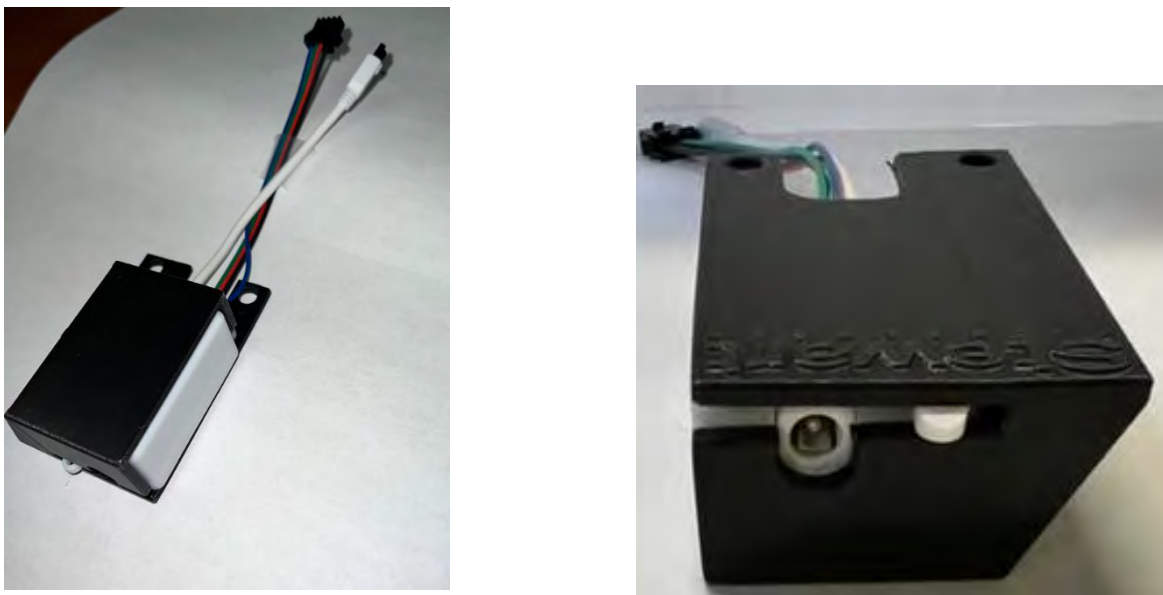

Figure 10: Insert Control Box to Control Box Case
1. Insert the control box to the control box case provided with your LED kit. The control box power port should be aligned with the hole of the case (see figure 10)